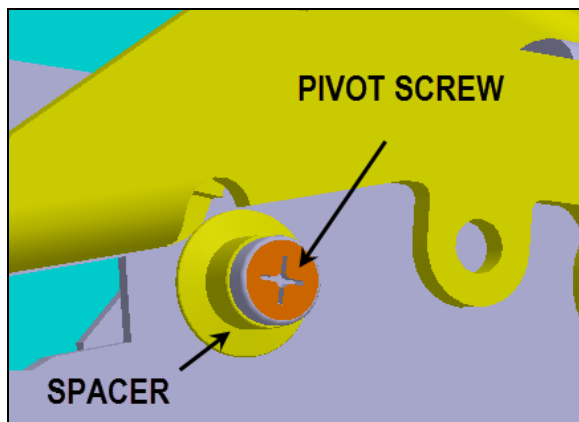
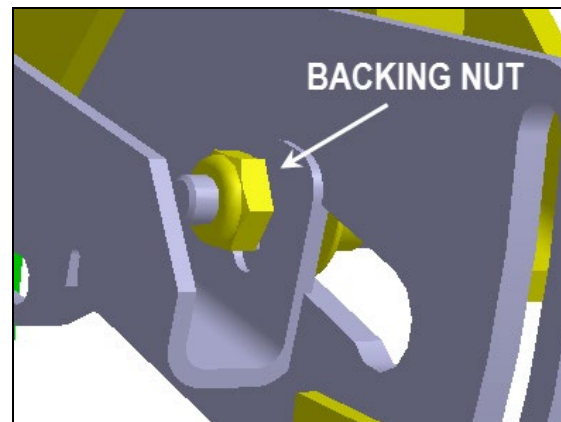

Fig.8
Fig.9
- Tighten the pivot screw Fig.8 (with spacer and backing nut Fig.9).